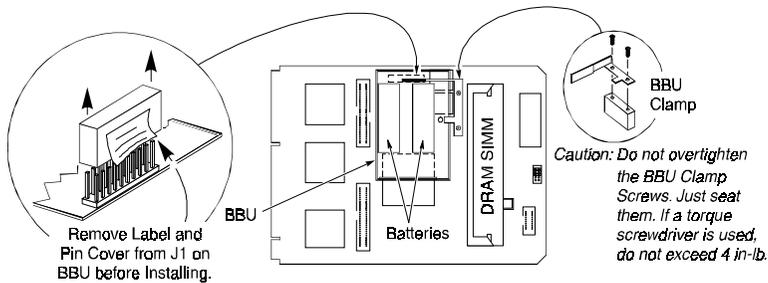

Figure C-5. DAC960SU After BBU Installation
5. Secure the BBU module with the BBU Clamp (refer to Figure C-5).